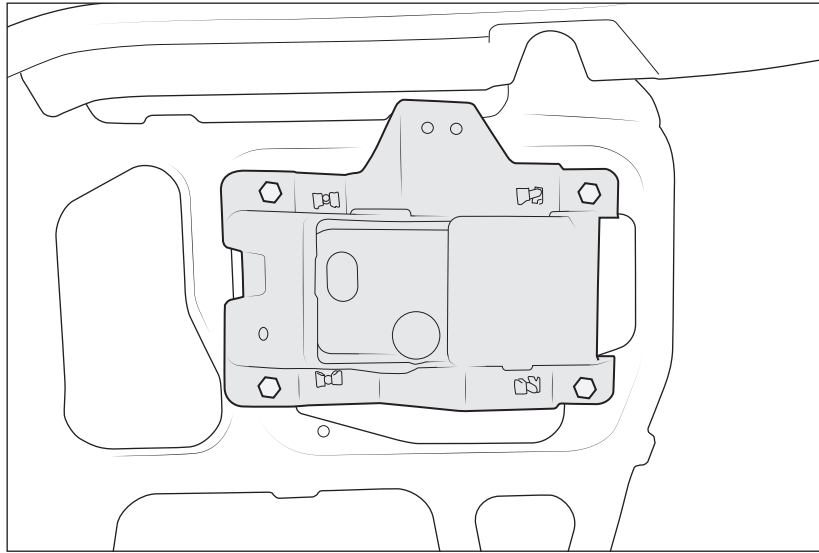

Figure 4
4. If equipped, remove the factory fog light assemblies by removing the four 10mm bolts. SAVE hardware for later use (fig. 4).